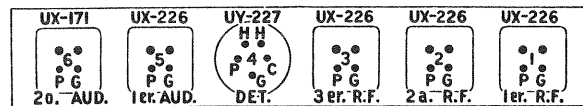

FIG. 2. TOP FRONT VIEW OF RADIO TUBE SOCKETS.
- (1) Snap the power switch to the "off" position.
- (2) Test between either filament contact of socket No. 1 and the plate "P" contact. (See Fig. 2).
- (3) Make the same tests for all the other amplifier sockets.
- (4) When testing the detector socket, place the leads in the "C" and the "P" contacts.
- (5) Assuming that voltage was present at the radio terminal strip, a lack of voltage in the sockets can be traced to: